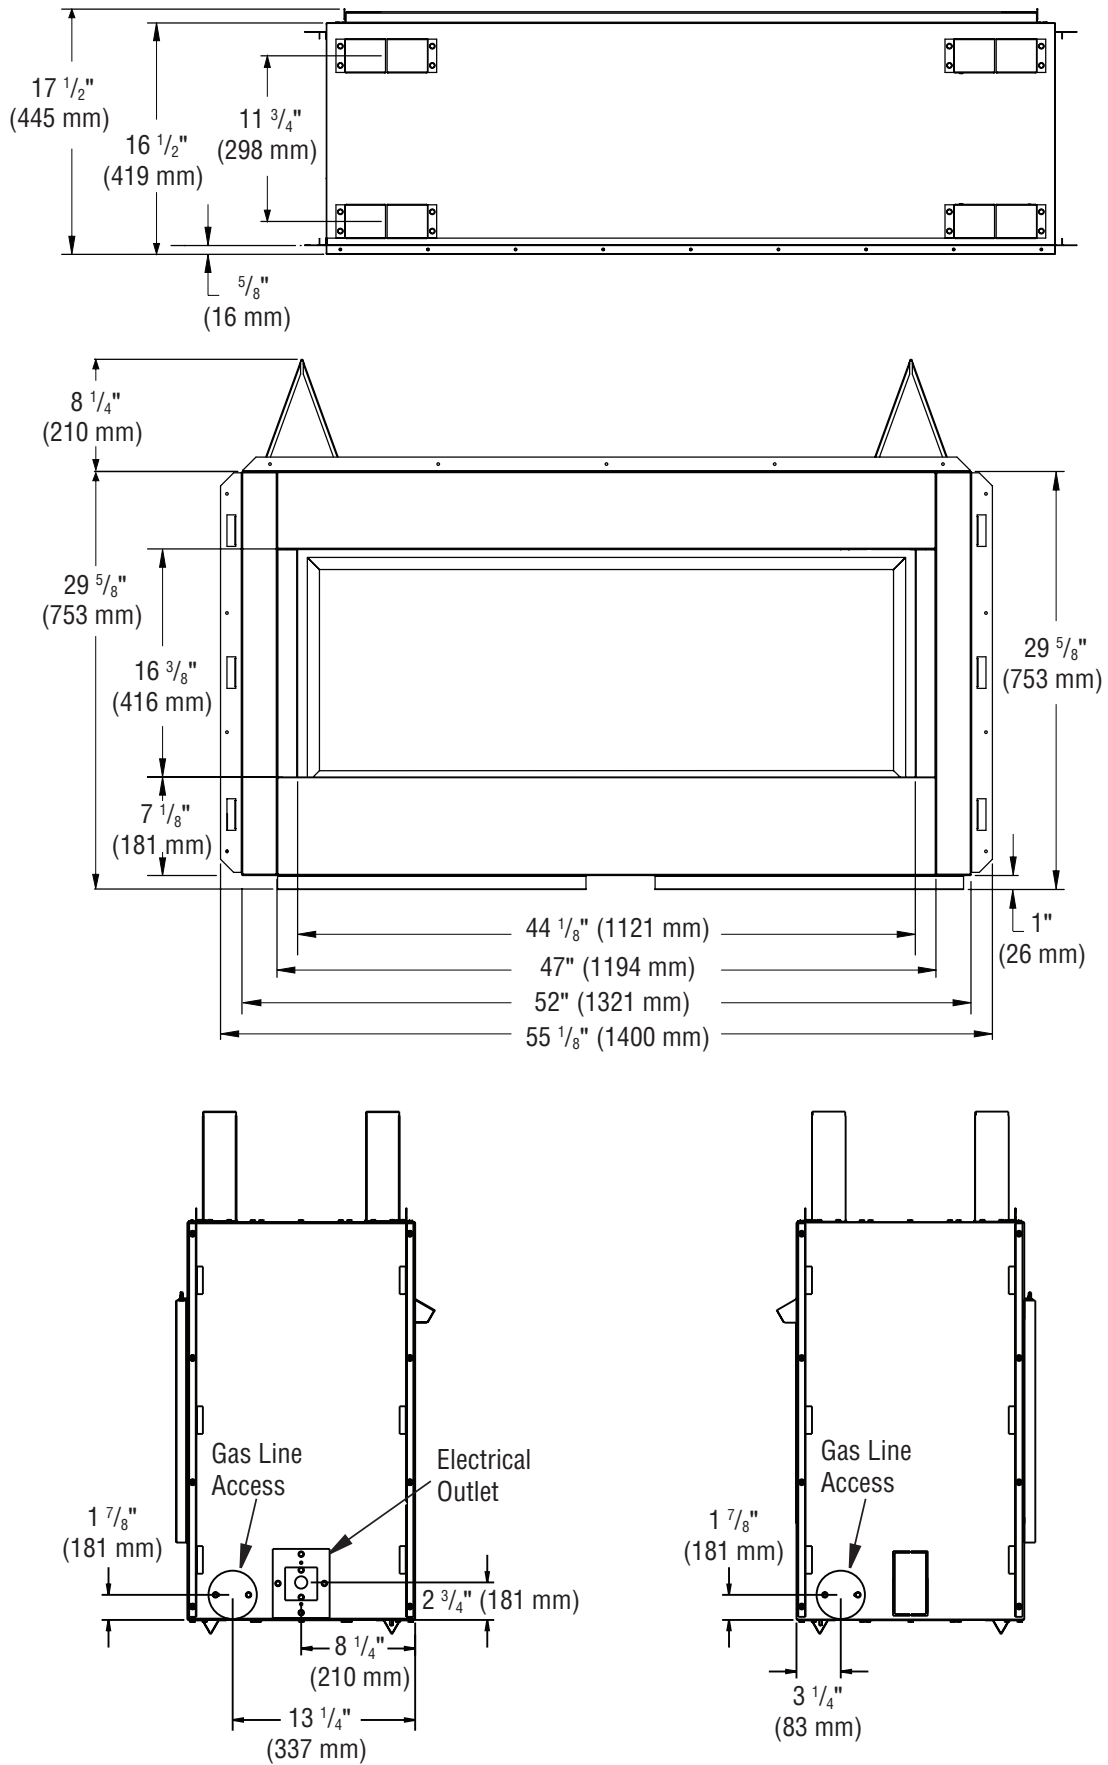

Figure 6 - VRE4543 Series Dimensions
*Please refer to overall fireplace width (Figure 6, page 6) before rough framing construction.